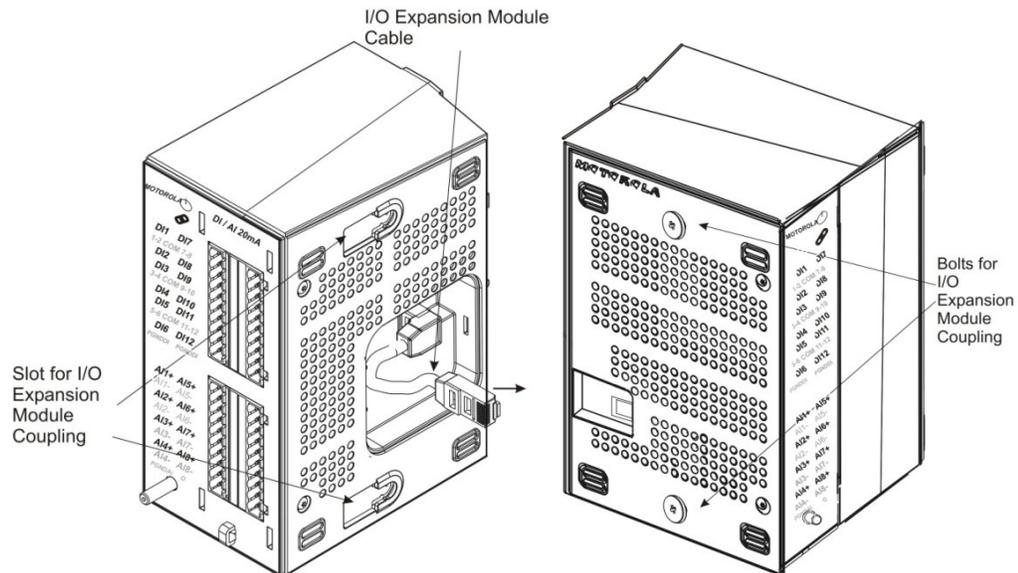

Figure 2-8 ACE1000 I/O Expansion Module Connection to I/O Expansion Module
- 1) Remove the faulty 5A fuse from the fuse holder. See Figure 2-8.